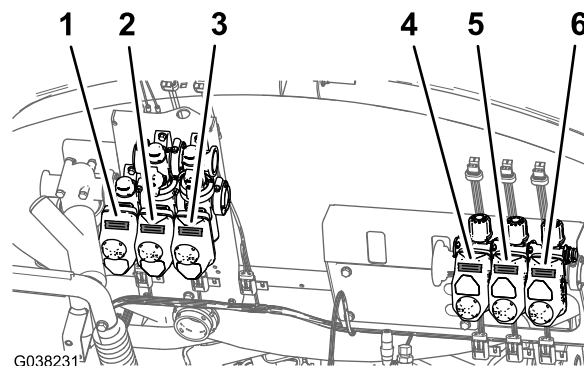

Figure 51
1. With pieces of masking tape, name the position of the valve actuator(s) as shown in Figure 51.
1. Align valve actuator that you identified in step 1 of Removing the Valve Actuators \(page 25\) with the manifold valve position shown in Figure 51.